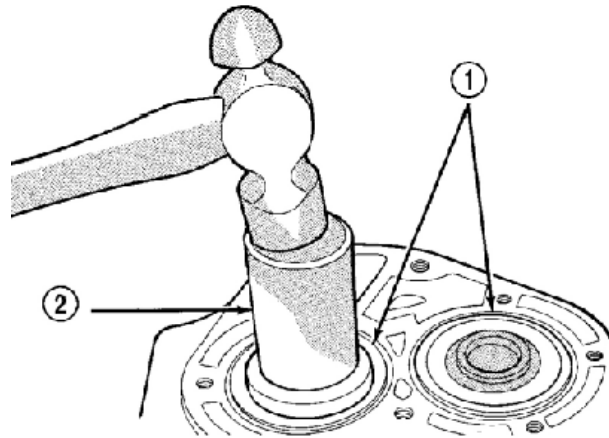

Figure 3-67 Assembly of input and output bearing
(8) Mount the input shaft bearing and output shaft bearing on the axle separately and press the Input and output shaft bearing with Millertool C-4992-1 to present the bearing bottom in the case, hold against the axle (Figure 3-67).